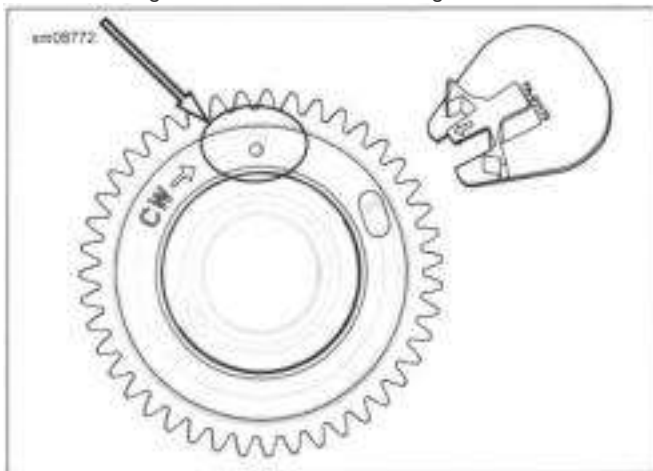

Figure 5-57. Preload Scissor First Gear
2. See Figure 5-57. Preload scissor first gear.